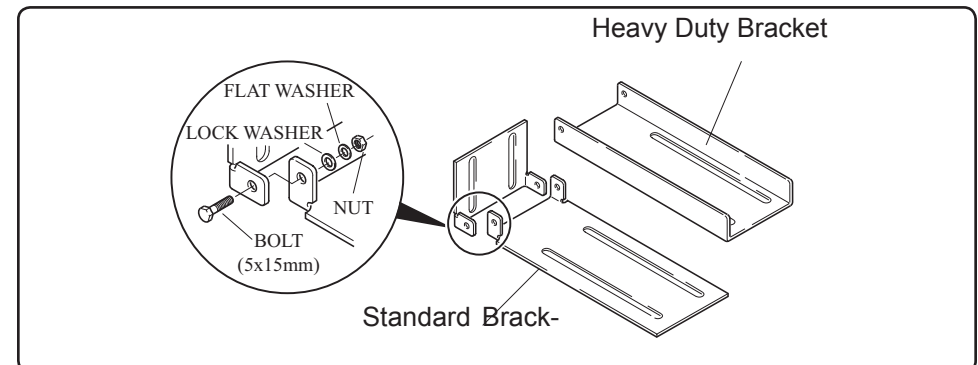

Figure 1. “L” Bracket Assembly
2. Select and assemble the adjustable “L” Bracket that fits your specific needs. (See Fig. 1) Standard Bracket - recommended for rear deck and light bar mounting. Heavy Duty Bracket - for use when Traffic Master will be subject to high wind, vibration, and/or severe stress.